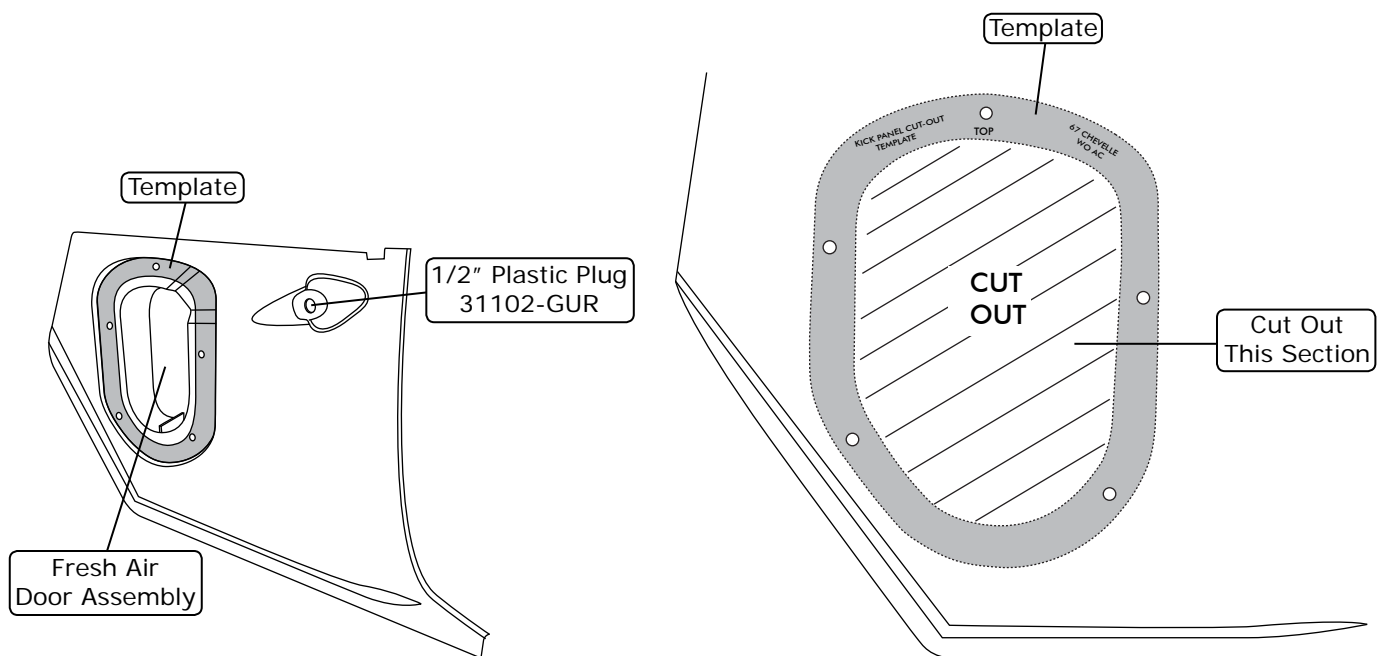

Figure 6
4. Install a 1/2" plastic plug to fill the hole left from the removal of the pull cable assembly (See Figure 6, below).
6. Place template onto kick panel and cut out fresh air door assembly as shown in Figures 6 & 6a, below.